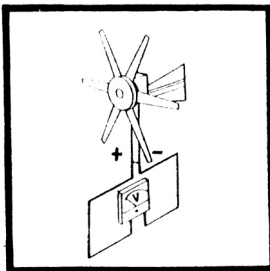

Figure 3
3. If no voltage is present across the generator output leads connected to the battery, check the output directly from the two short wires from the generator (Fig.3). By spinning the blades by hand a reading of 5 volts or more indicates that the generator is OK. The fault could be in the cables between the generator and battery set. Check the continuity of the cables with an Ohms meter.